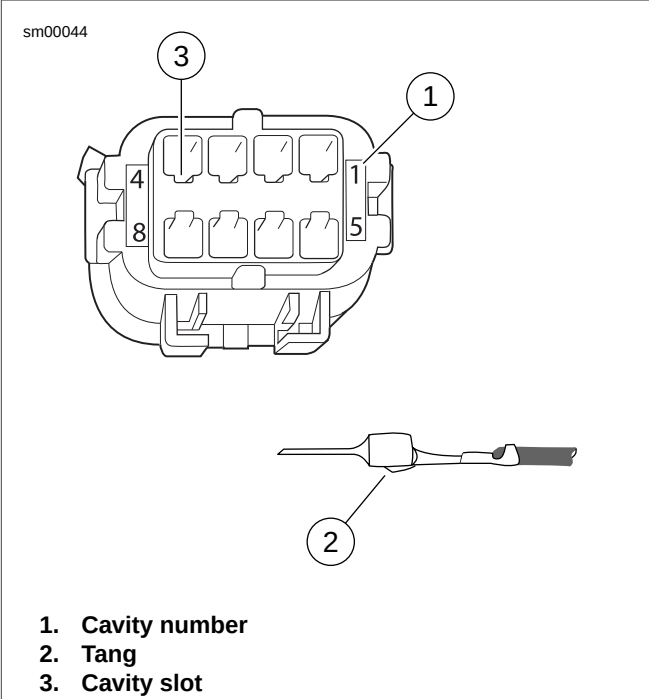

Figure A-47. Molex MX 150 Sealed Connector: Pin Cavities and Wire Terminal
1. See Figure A-47. From the wiring diagram, match the wire color to its numbered terminal cavity.